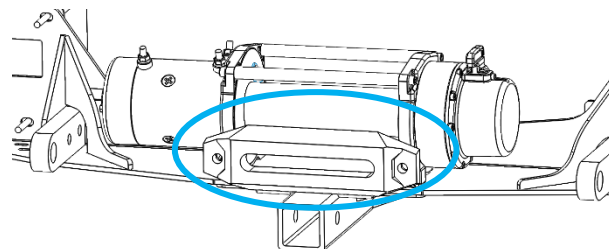

Figure 22: Bolt on Fairlead Plate
- a. Note: If you are running an Aluminess light bar, use a hawse fairlead instead of the provided winch fairlead (Figure 22).